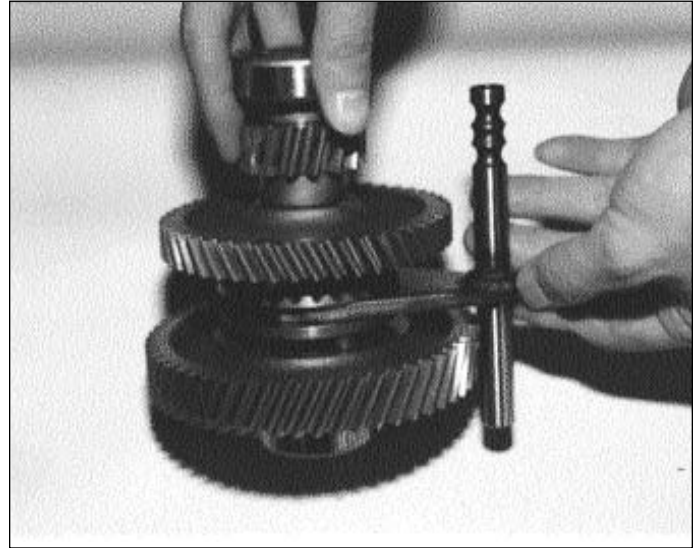

Figure 44 - Center Shaft Assembly with Shift Fork
10. Insert the shift fork into the groove on the clutch collar as shown. See Figure 44.